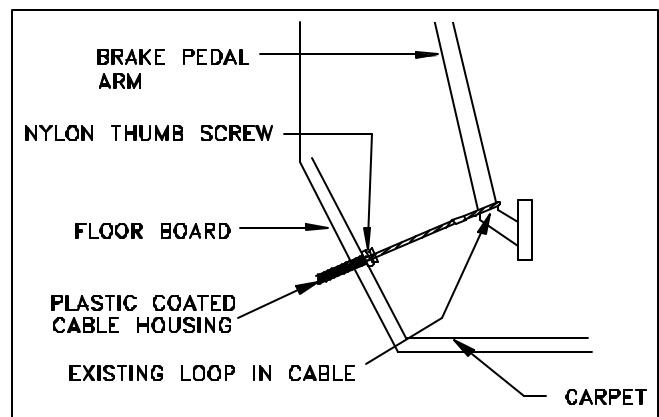
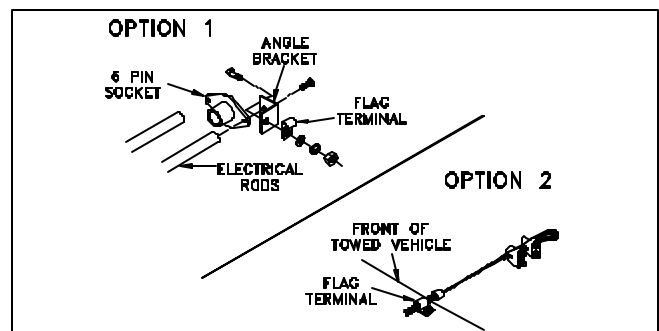

Figure 4
Figure 5
5. Now you are ready to install the coated brake cable housing in the towed vehicle. Pull the inside cable from the housing and set aside. The cable should run through the hole drilled in the floor board into the engine compartment. Visually select a route that will not interfere with any moving components or possibly contact electrical terminals. Route the cable to the central area (preferably through the opening where the attachment tabs extend through) of the front plastic fascia. The cable housing should be fastened in the engine compartment (on frame) with flag type terminals provided in parts bag. Fasten the end of the plastic housing to the baseplate with the supplied angle bracket. Figure 5
NOTE: Flag terminals are used so the cable housing is stationary allowing the inside cable to move freely. When installed properly, the nylon thumb screw should be showing on top of the carpet. Avoid abrupt bends in the cable housing as this will cause friction and premature wear of the cable. The cable housing should protrude a 1/2 inch beyond the bumper, or bumper skirt or wherever the flag terminal is mounted, pointing directly at the hitch ball. Figure 5
- Lubricate the cable with silicon spray and feed the cable back through the front end of the cable housing into the passengers compartment. Loop the cable around the brake pedal arm allowing the cable to feed directly and straight into the cable housing. If alignment is proper, the cable will feed into the cable housing when the brake pedal is depressed. See Figure 4. Leave 1/2" of cable housing extending from the flag terminal on the front of the vehicle. See Figure 5.